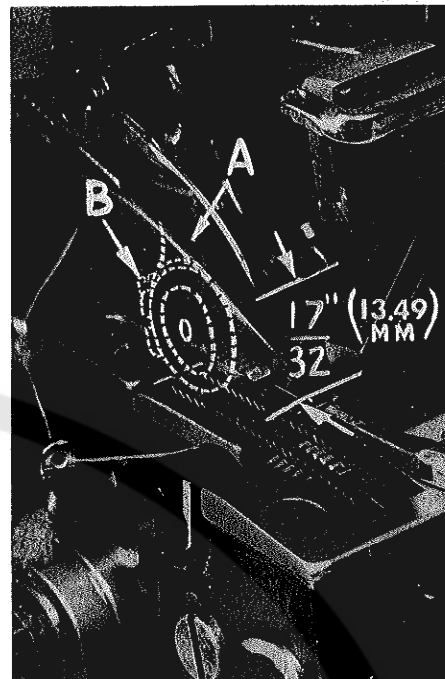

Fig. 4
With throat plate assembled in position, needle should center in the front end of needle slot. When needle is at high position, needle point should be set $17/32$ inch (13.49 mm) above throat plate (Fig. 4), for Styles 39500 QG, RN and SD. This dimension should be $1/2$ inch (12.70 mm) for Style 39500 TC. To align needle or set the height above throat plate, move needle driving arm (A, Fig. 4) by loosening clamp screw (B). Remove throat plate, after needle has been set properly and clamp screw (B) has been tightened.